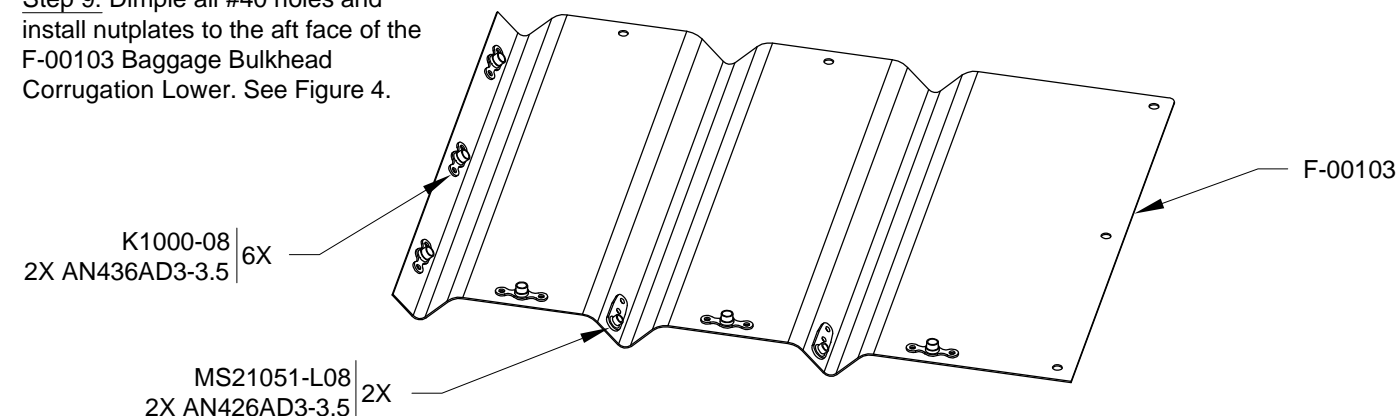

FIGURE 4: INSTALLING NUTPLATES (AFT FACE SHOWN)
Step 9: Dimple all #40 holes and install nutplates to the aft face of the F-00103 Baggage Bulkhead Corrugation Lower. See Figure 4.